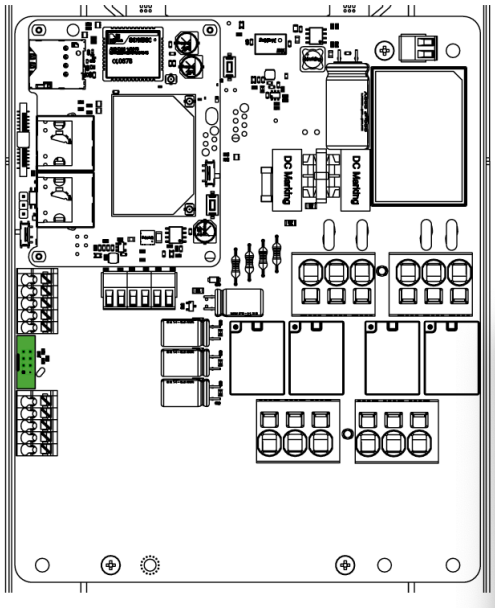

Fig. 28: PilotBox RCM B socket
1. Connect the device to the dedicated socket on the PilotBox board. [Fig. 28]